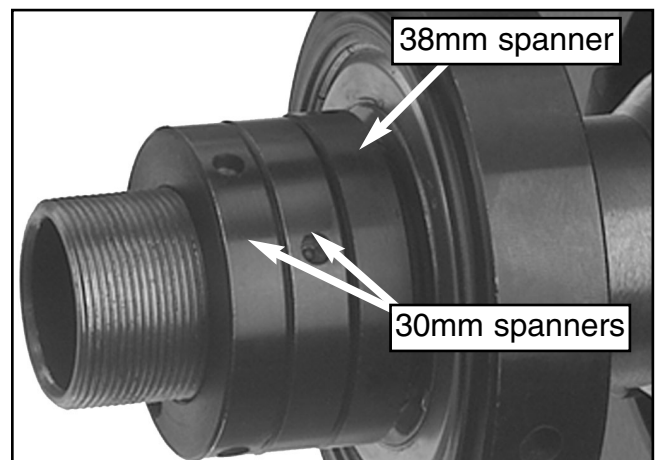

Figure 13. Spanner nut positioning for locking stroke adjustment.
2. Secure the 38mm spanner nut against the outboard side of the bearing housing and then secure the 30mm spanner nuts against the 38mm spanner nut as shown in **Figure 13**. Note—*Be sure that the 30mm spanner with the setscrew is on the outside, with the setscrew accessible.*